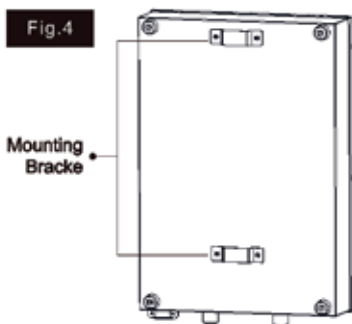

Fig.4
3. The water heater gets 2 mounting brackets on the back side, so all you need to do is hang the water heater on those fixed brackets on wall, pull the water heater unit downside to sit it tight (Fig.4).